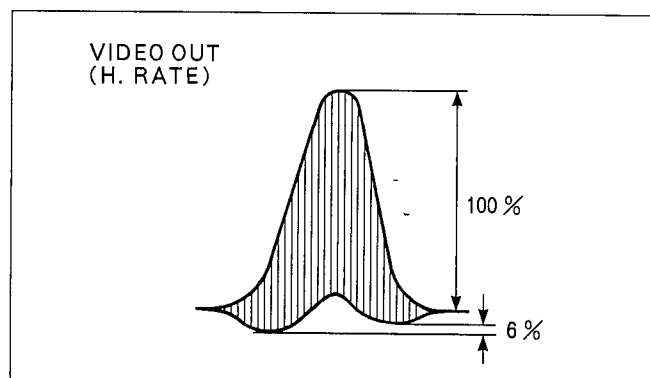

Figure E34
SPEC.	100nsec $\pm$ 50nsec (FIG. E34)
3. Adjust VR3205 so that the waveform becomes as shown in Figure E34.
3. Adjust VR3204 so that the waveform becomes as shown in Figure E34.
4. Adjust VR9403 and SW3921 so that the waveform becomes as shown in Figure E34.